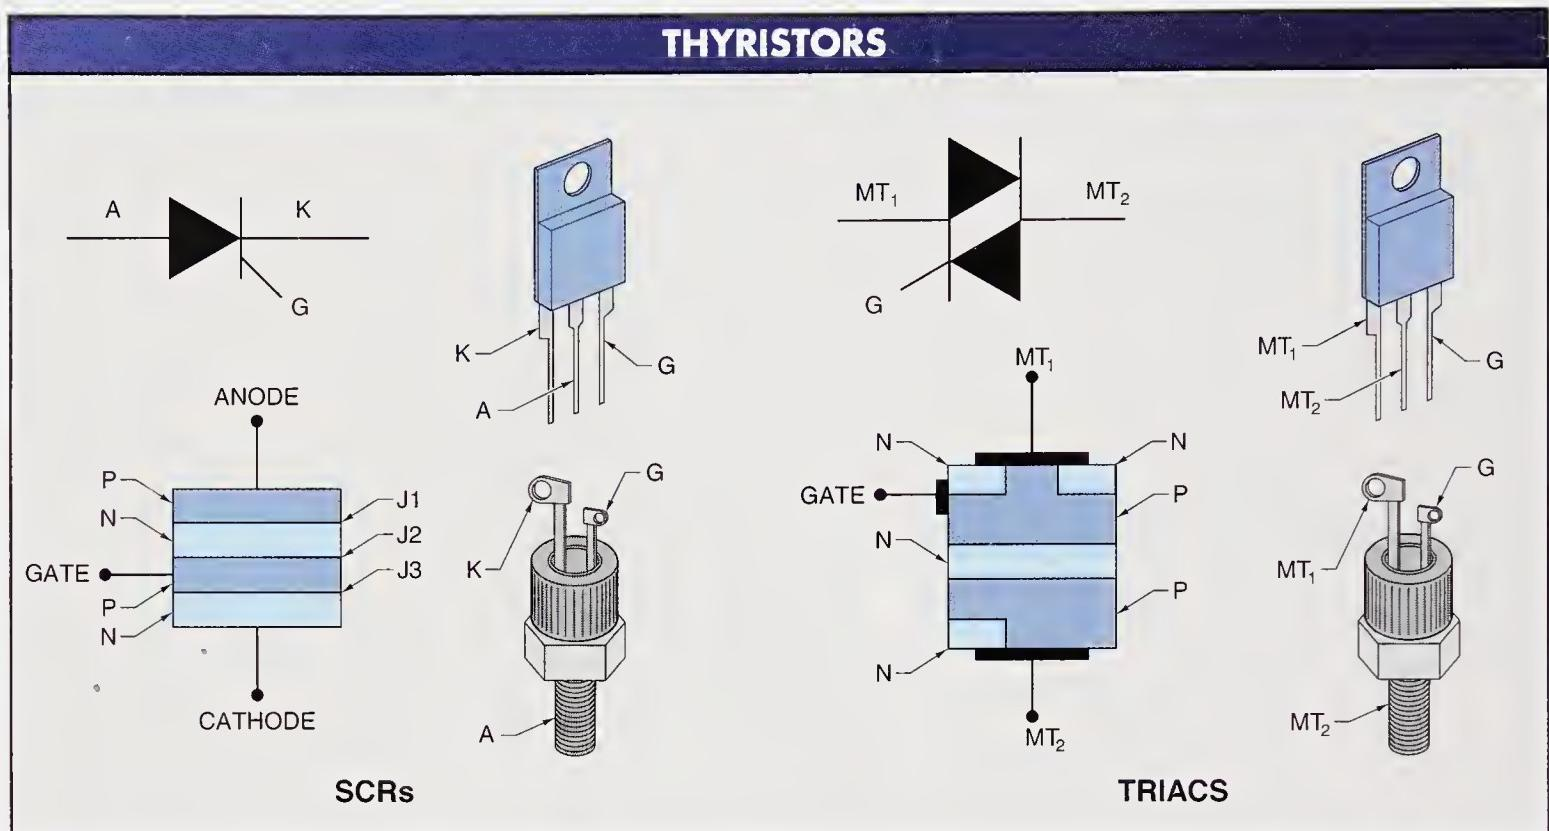

Figure 5-32. Thyristors operate as switches, either DC current switches (SCRs) or AC current switches (triacs).
A *silicon controlled rectifier (SCR)* is a thyristor that is triggered into conduction in only one direction, and is suited for DC current use. A *triac* is a thyristor that is triggered into conduction in either direction and is suited for AC current use. Thyristors have two terminals for load current and one terminal for control current. The three terminals of an SCR are the anode (A), cathode (K), and gate (G). The three terminals of a triac are the main terminal 1 (MT_1), main terminal 2 (MT_2), and gate (G). See **Figure 5-32**.